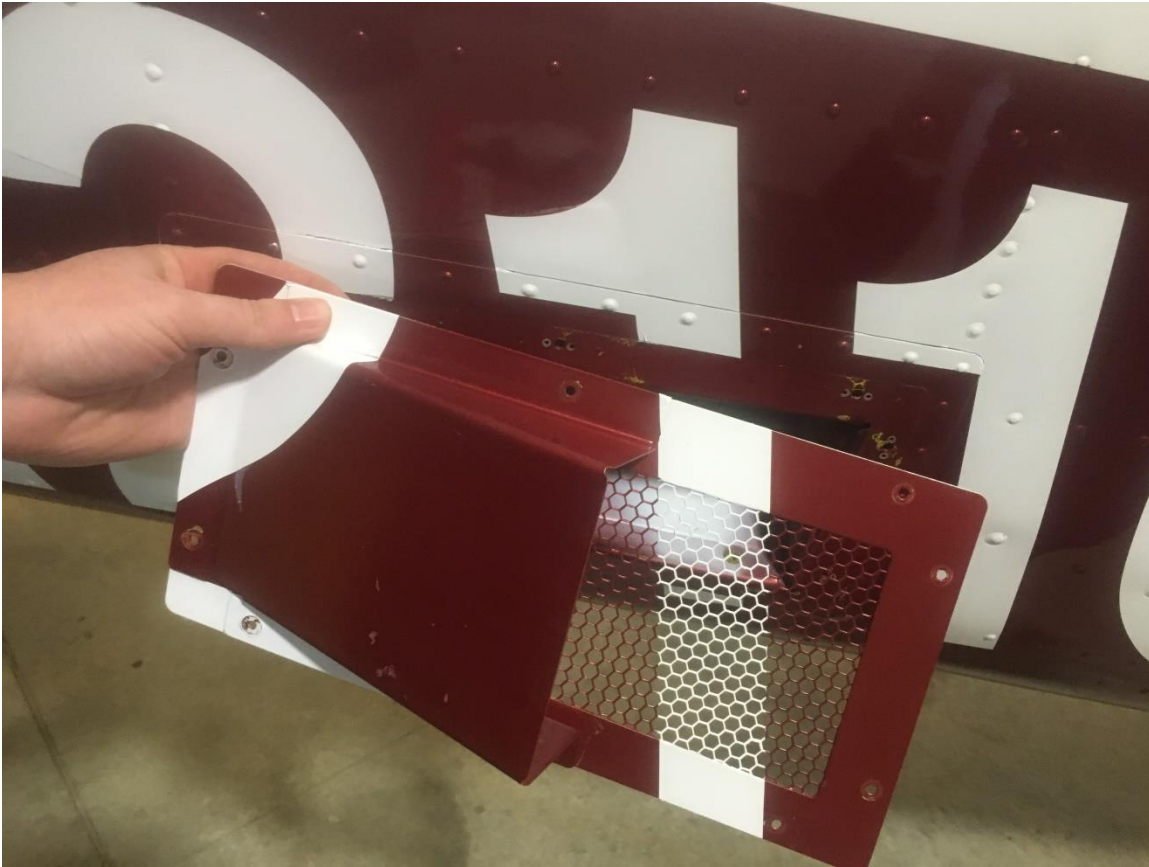

Figure 1 - Remove Screen
- A. Remove the screen protecting the Waterdam on the starboard side of the tail. See Figure 1.